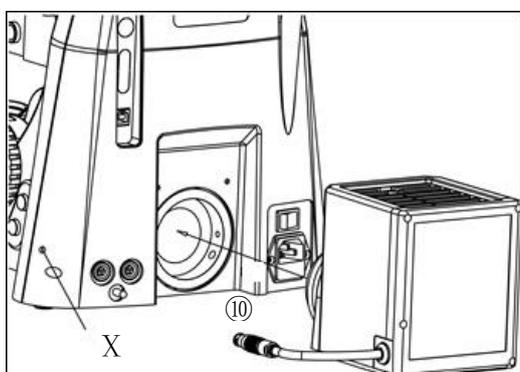

Fig.12
**4-2-10 Lamp room installation (Fig.12)**
Firstly, insert the light box into the back of the frame base by referring to the path of Num ⑩ marked in Figure.12.